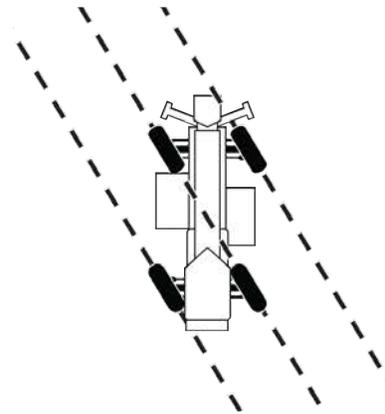

Figure 29 Crab Steering
3. Crab Steering. See Figure 29.